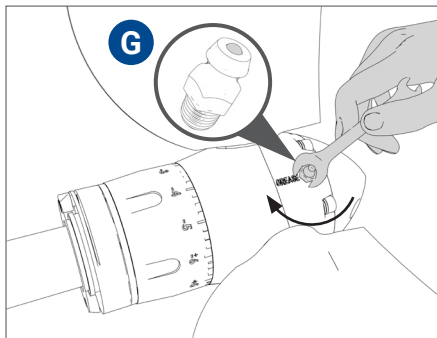

FIG. 43 | Screwing on the grease nipple "G"
- Screw in the grease nipple **G** supplied with the propeller into the hole (**Fig. 43**).